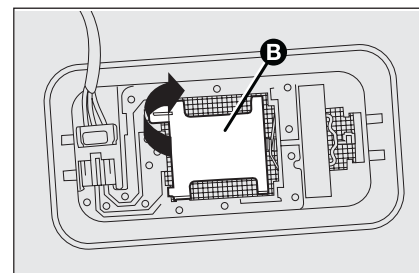

fig. 36
- ☐ open the lid **B-fig. 36** as indicated;